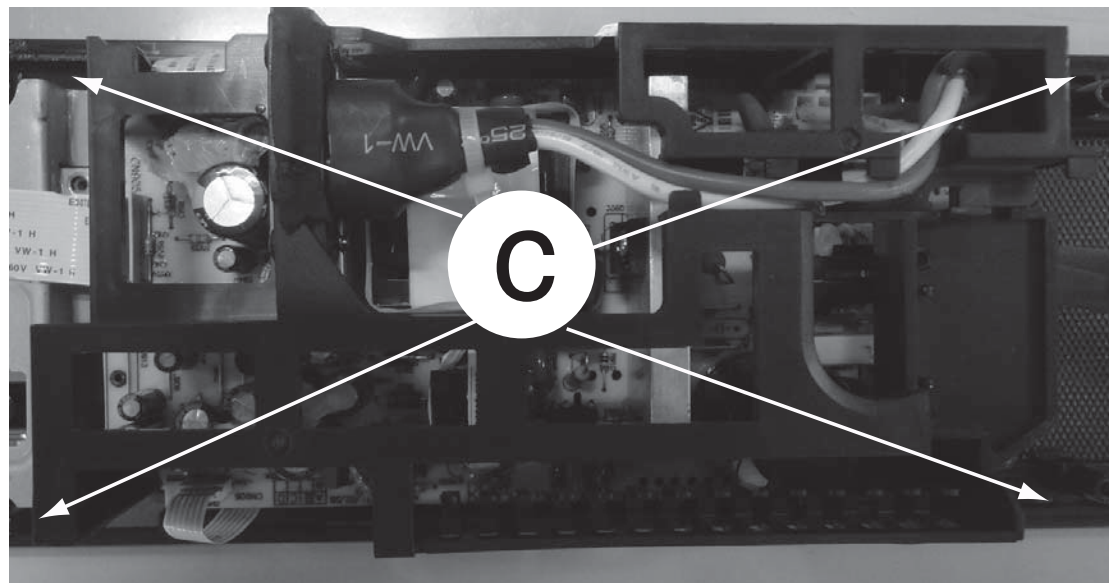

Figure 3
1) Loosen 4 screws "C" to remove the Power Board as shown in figure 3.